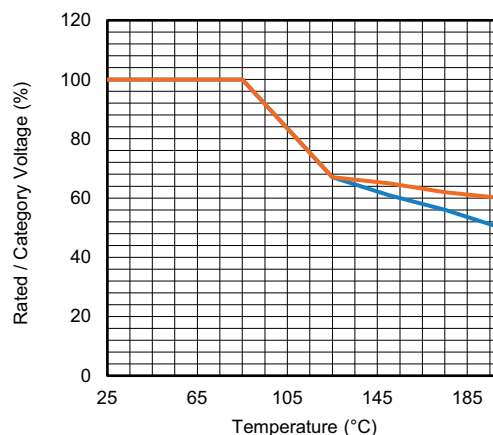

Fig. 6
For wet tantalum devices the maximum working voltage is equal to the rated voltage (RV) if they operate in the temperature range of -55 °C to +85 °C. Above 85 °C it decreases linearly to 2/3 x RV at the maximum working temperature of +125 °C. For Vishay series with higher maximum operating temperatures - like the 134D, 135D, T11, T24, and T34 - it will go to 0.5 to 0.6 rated voltage at extreme temperatures. Above +85 °C, it is common to refer to the maximum working voltage as the category voltage. For the ratio between the RV and category voltage, refer to Fig. 6.